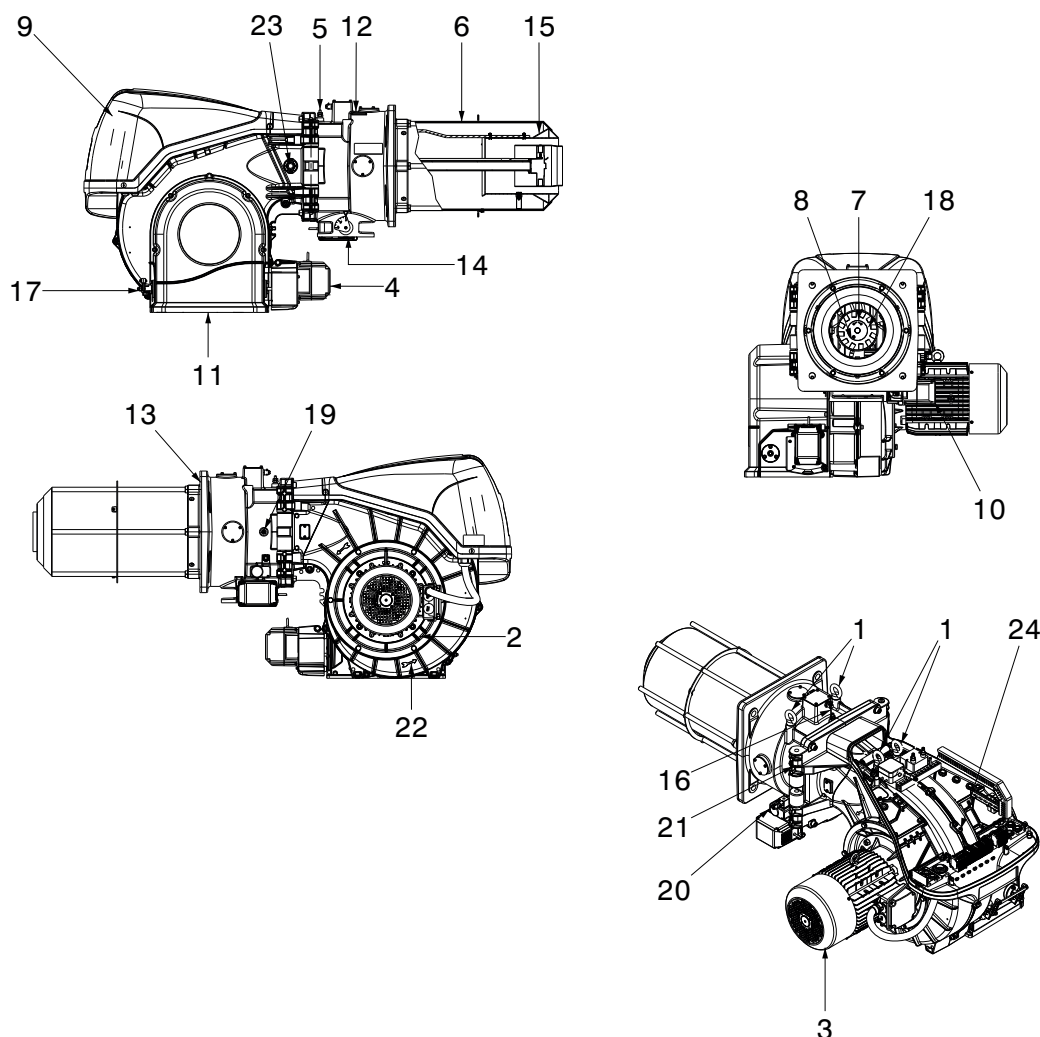

Fig. 4
- (1) Reference conditions: Room temperature 20°C - Gas temperature 15°C - Barometric pressure 1013 mbar - Altitude 0 m a.s.l.
(2) Pressure at the test point 5)(Fig. 4 on page 11) with zero pressure in the combustion chamber and at maximum burner output.
(3) Sound pressure measured in manufacturer's combustion laboratory, with burner operating on test boiler and at maximum rated output. The sound power is measured with the "Free Field" method, as per EN 15036, and according to an "Accuracy: Category 3" measuring accuracy, as set out in EN ISO 3746.
replace the GW 500 maximum pressure switch (Fig. 4 on page 11) installed on the burner with the GW 150 gas pressure switch supplied as equipment.